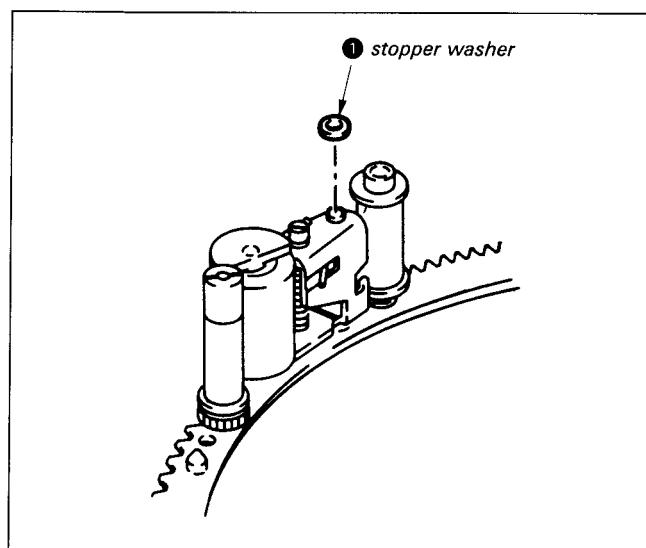

Fig. 7-14.
7-3-8. Pinch Roller Assembly (See Fig. 7-14.~25.)
- 2) Remove stopper washer ①. (See Fig. 7-14.)